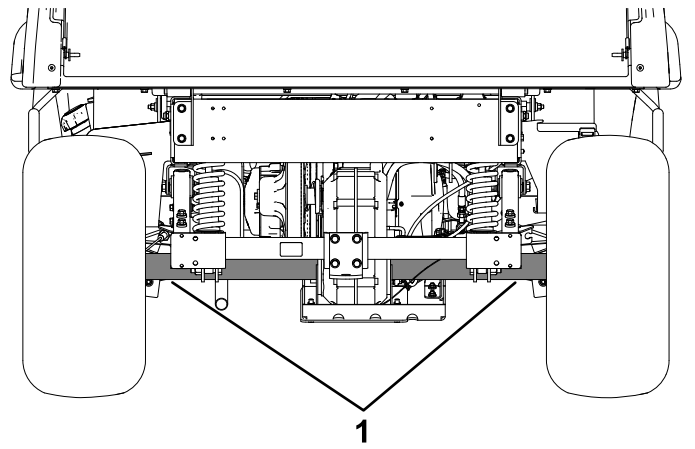
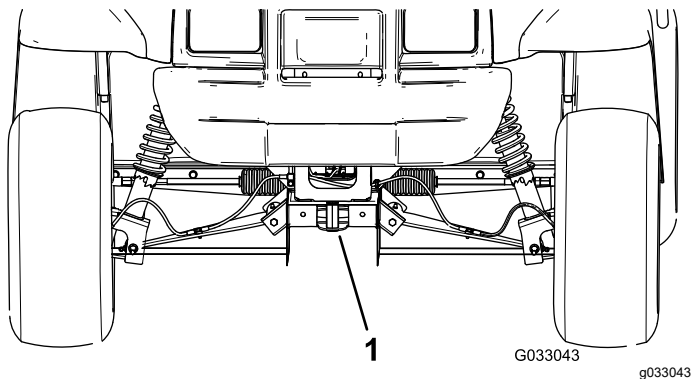

Figure 19
Figure 18
Refer to Figure 18 and Figure 19 for the tie-down locations on the machine.
2. Affix a tow line to the tongue at the front of the machine frame (Figure 18).